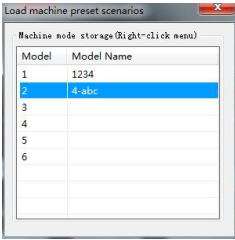

Figure 3.4.4
Step2: Click "Load machine preset" item will pop up after loading machine preset scene window dialog box (Figure 3.4.4).
Step 3: as dialog box of figure 3.4.4 , select the machine where the user wants to load a preset number (as selected on the 3rd), and then point below the "Load" button on the pop-up shown 3.4.5 loading data transfer progress shown in the wait window.